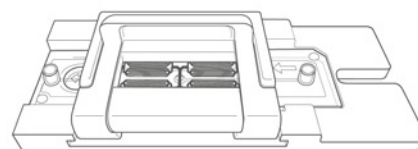

Fig. 24. Top Cover clamped on Celselect Slide and Manifold.
3. Engage the clamp to seal the Celselect Slide between the Manifold and the top cover (Figure 24).